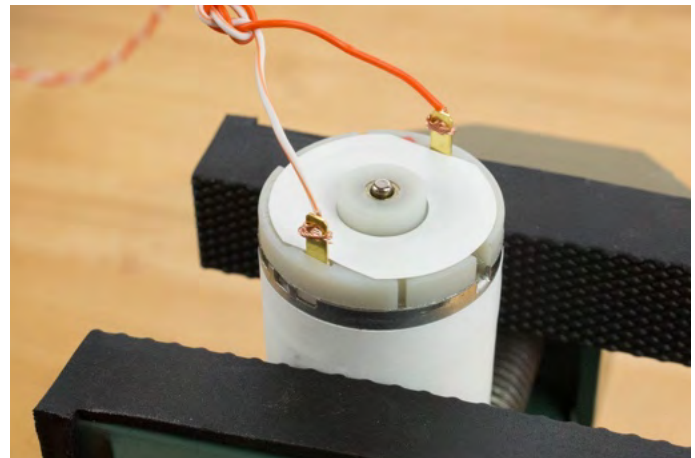

Figure 19
- ❑ Twist and squeeze the wires around the terminal using the needle nose pliers to make a solid mechanical connection. (Figure 19)